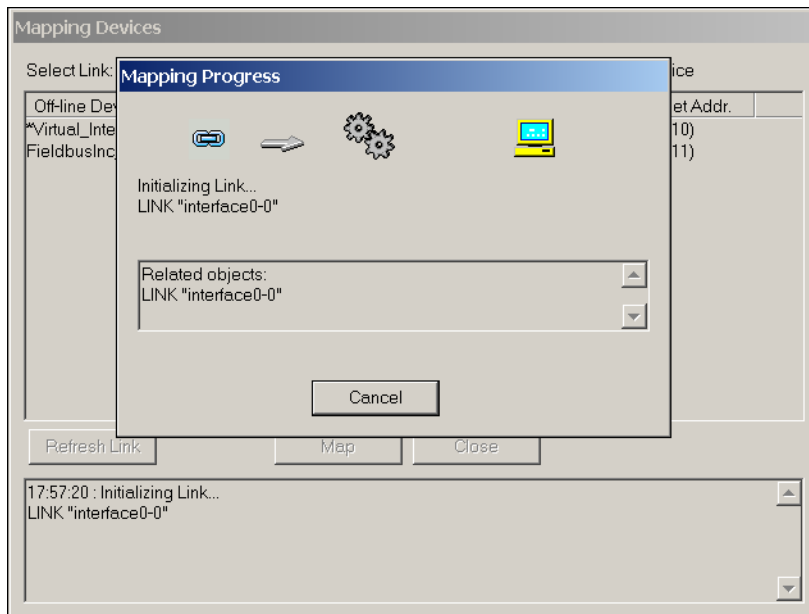

Figure 3-8. Initializing the Link
3. As the Configurator launches, check the **Open** option in the startup dialog box and open the .fcf file you saved in the Offline Configurator. A window prompts you to initialize the link, as shown in Figure 3-8.